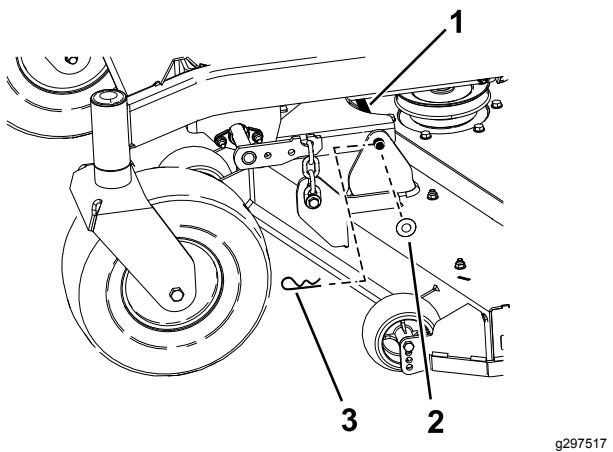

Figure 64
5. Remove the hairpin cotter and washer securing the link pin to the frame and deck, and remove the link bar (Figure 64).
9. Secure the link pin with the hairpin coppers and washers removed previously (Figure 64).